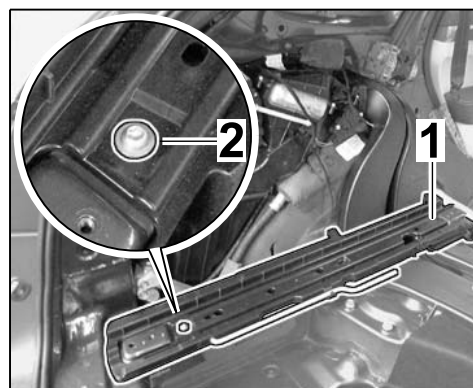

Figure 34
- 3.6.4 Fit rail ⇒ *Figure 34 -1-* and tighten screw ⇒ *Figure 34 -2-*.